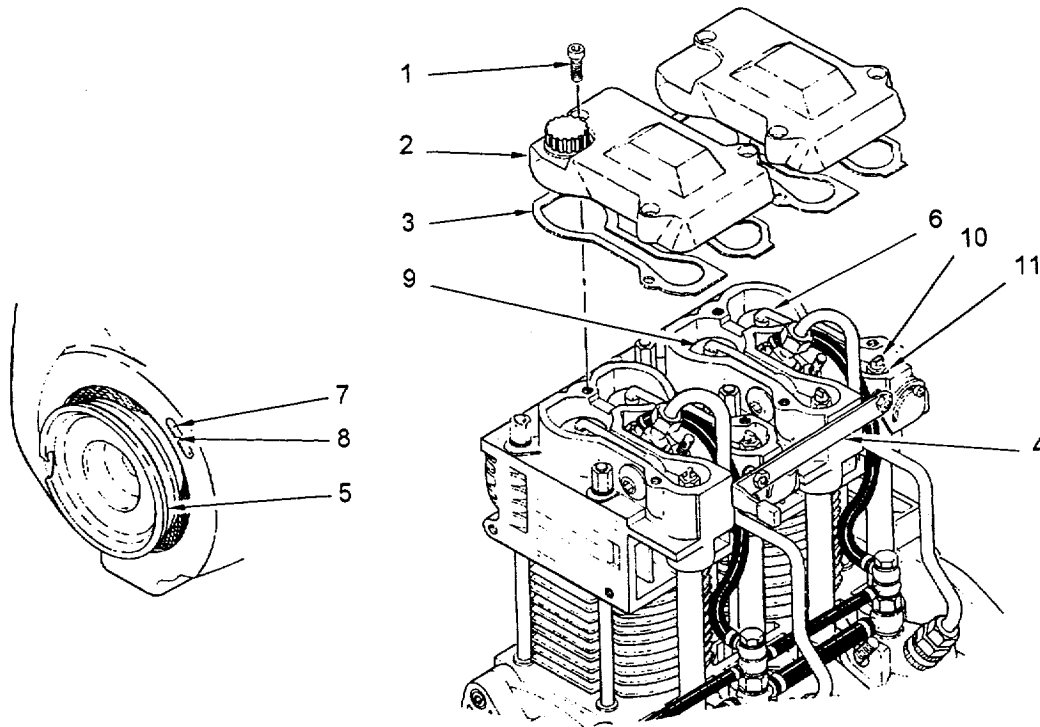

Figure 4-18. Valve Adjustment
4.14.3 Adjust Valves. (Refer to figure 4-18.)